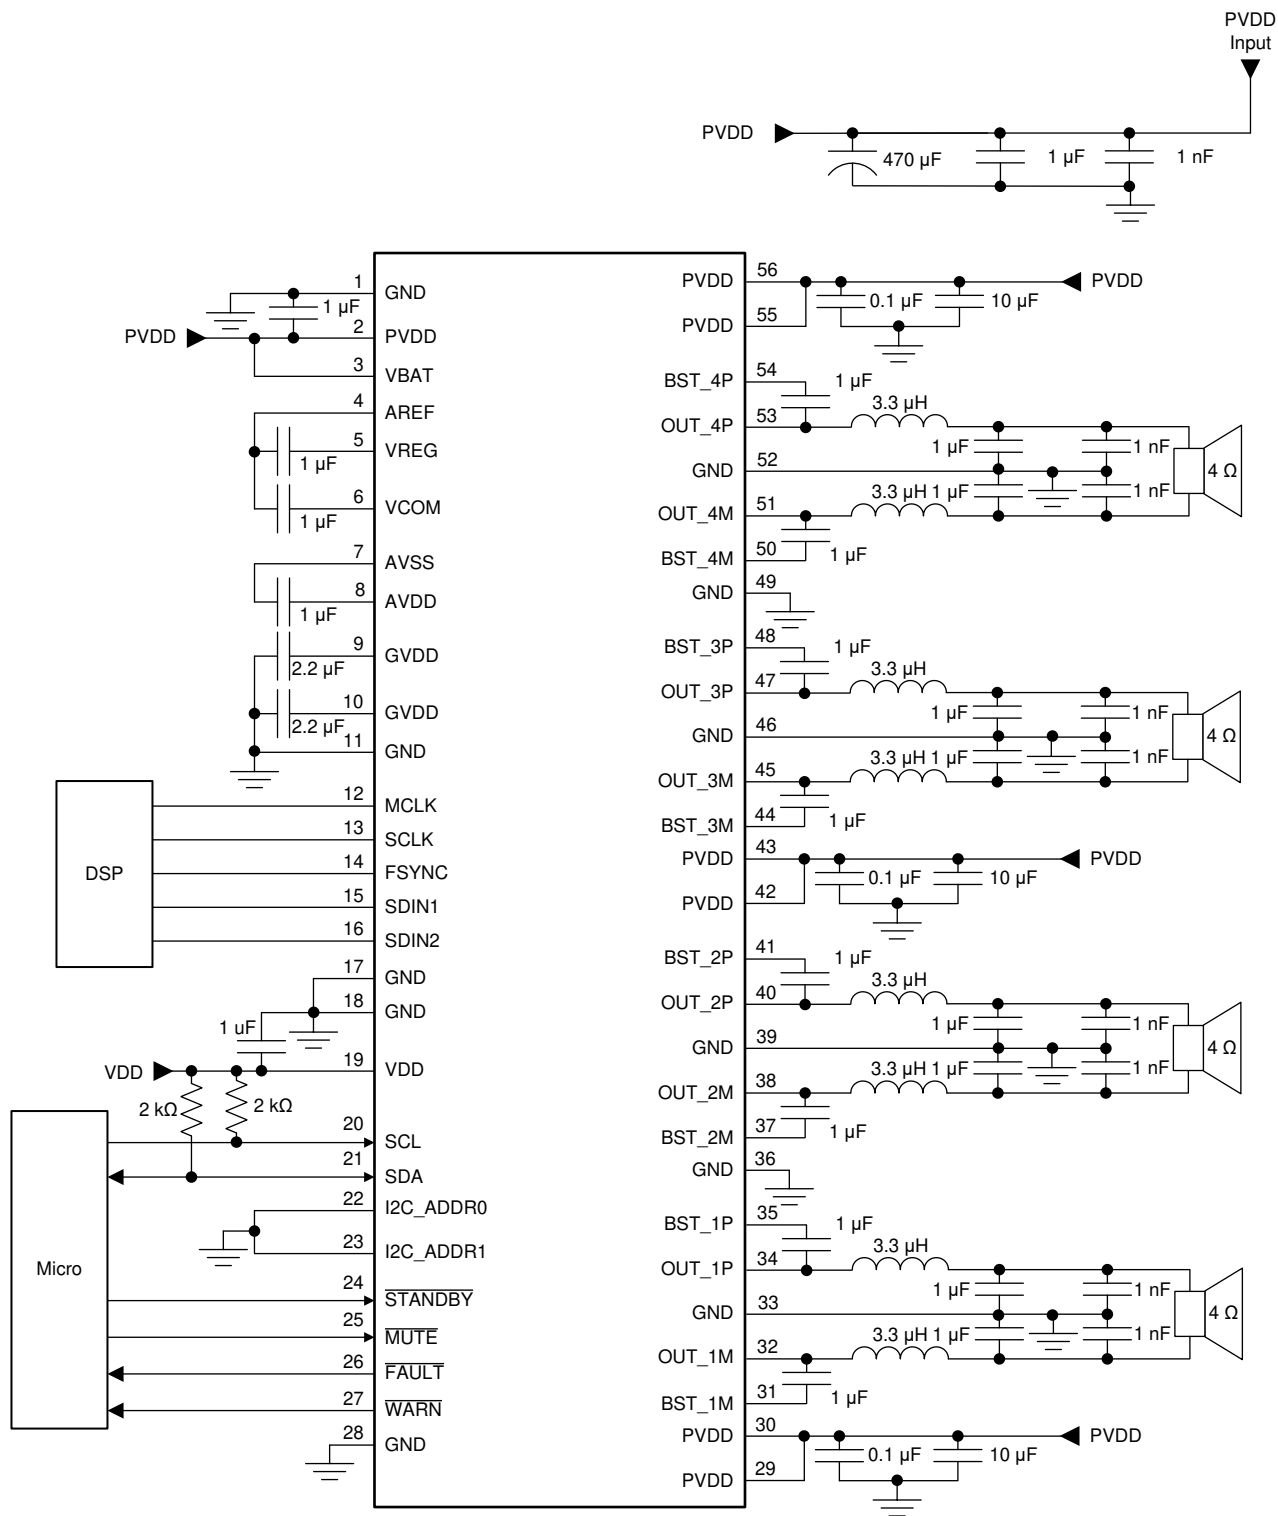

Figure 10-2. Typical 4-Channel BTL Application Schematic
Figure 10-2 shows the schematic of a typical 4-channel device for a head-unit application.
- With the requirements, adjust the typical application schematic in Figure 10-2 for the input connections.